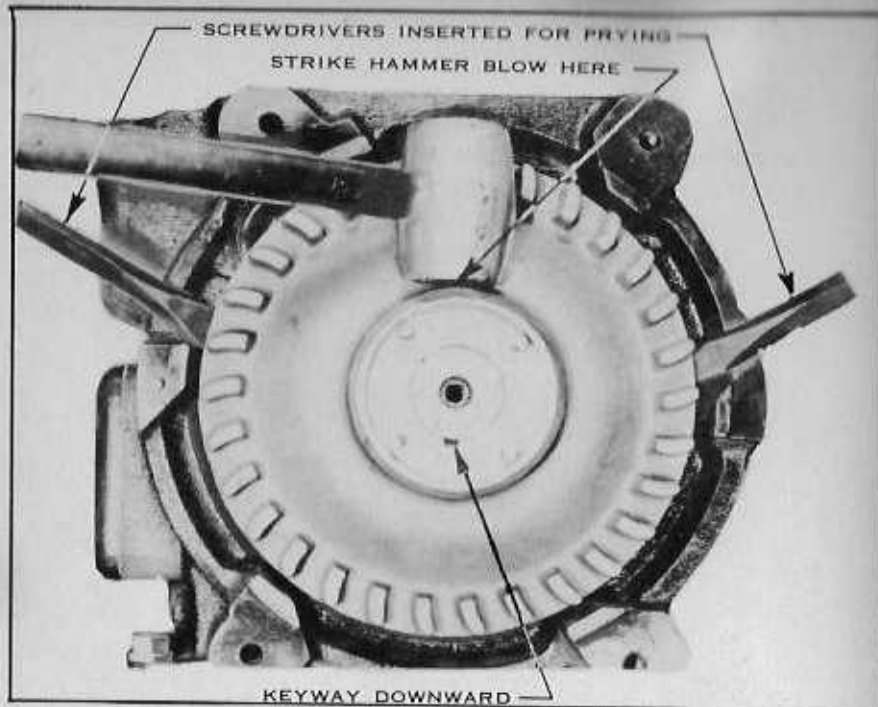

FIG. 32 REMOVING FLYWHEEL
- (18) Remove the armature through stud by unscrewing with a pipe wrench.
- (19) Turn the flywheel until the key way is downward. Insert a heavy screwdriver or similar pry between flywheel and crankcase at the right and left sides. These prys should be inserted in such way that they will hold the crankshaft firmly against the rear crankshaft bearing. Then strike a sharp downward blow on the hub with a lead hammer. See Fig. 32. Avoid dropping the flywheel.
- (20) Remove the flywheel key from the crankshaft.
- (21) Remove the nuts from the exhaust flange and remove the muffler assembly.
- (22) Remove the radiator drain cock.
- (23) Remove the cap screws from the top of the upper radiator connection.
- (24) Remove the cap screws from the cylinder water inlet connection. The radiator hose may be removed after loosening the nose clamp bolts, if desired.
- (25) Remove the sheet metal screws which hold the fan guard to the radiator.
- (26) Remove the bolts which hold the radiator to the mounting bracket and lift the radiator away from the engine. Lay the fan guard aside.
- (27) Remove the nuts which hold the radiator support to the crankcase and remove the support.
- (28) Remove the fan bracket cap screws. Remove the fan and fan belt. Lay the fan face down to prevent oil from running out.
- (29) Remove the cap nuts which hold the water outlet casting and remove the casting.